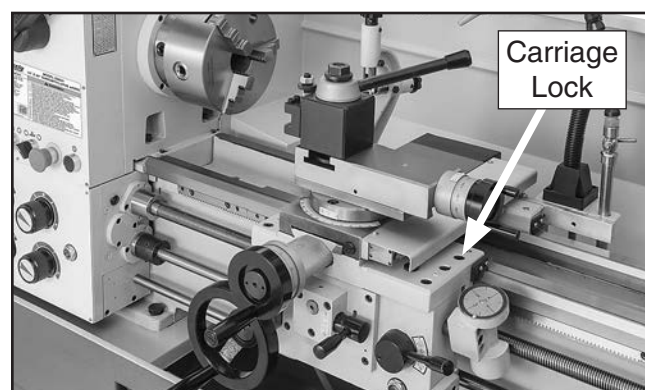

Figure 126. Location of carriage lock.
The saddle is supplied with a carriage lock on the front right-hand side of the slide (see **Figure 126**). This bolt locks the saddle in place for increased rigidity when making face cuts. Before making adjustments to the saddle gib, make sure that this lock is loose by turning it counterclockwise one full turn.
3. If carriage lock (see **Figure 126**) is tight, loosen it two turns.